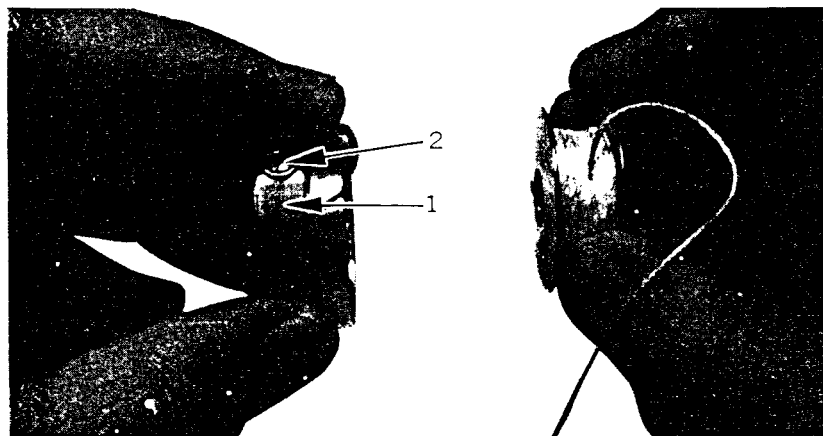

Fig. 6
3. To insert a full bobbin (Fig. 6), hold it pulling out the end of thread by about 5 cm, and insert the bobbin into the bobbin case.
4. Lead the end of thread out through the slot of the bobbin case, and under the tension spring (1, Fig. 6) and then the thread guide.
To increase the tension, turn the screw (2, Fig. 6) to the right, and to decrease it, turn the screw to the left with a screw driver.